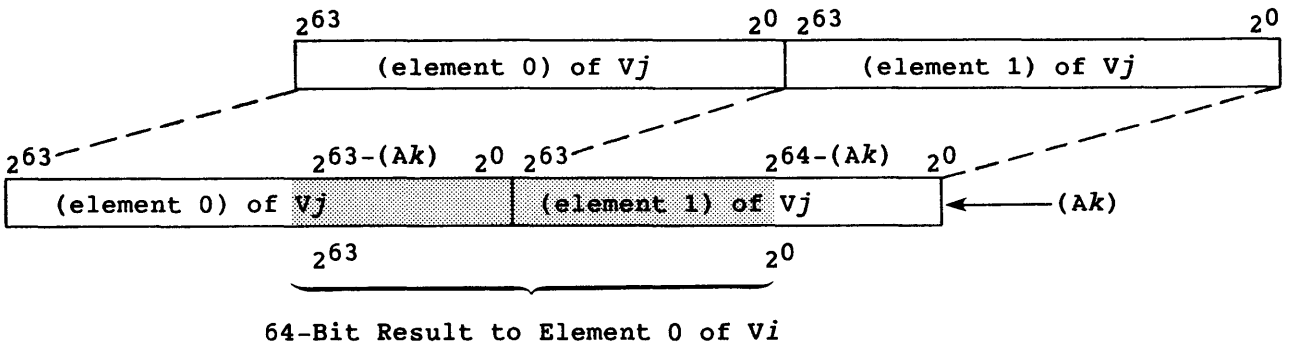

Figure 5-7. Vector Left Double Shift, First Element, VL Greater than 1
If (VL) is 2, the operation starts with element 0 of V_j being joined with element 1, and the resulting 128-bit quantity is then shifted left by the amount specified by (A_k). The high-order 64 bits remaining are transmitted to element 0 of V_i . Figure 5-7 shows this operation.